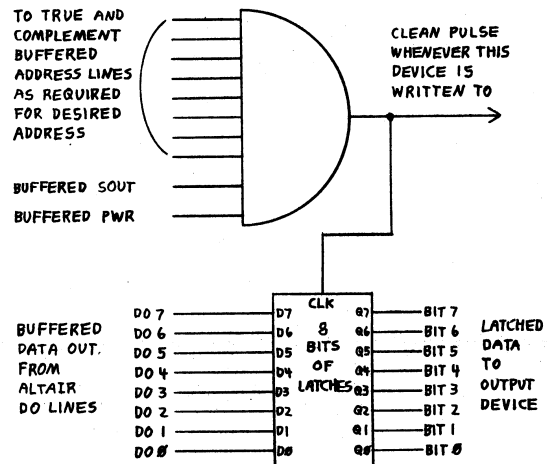

FIG. 2 SIMPLIFIED OUTPUT PORT SCHEMATIC
An output cycle is distinguished by the signal SOUT (pin 45) going high on the bus. As with the input cycle the device address is duplicated on the high and low halves of the address bus and is settled before SOUT goes high. Shortly after SOUT becomes active, the output data from the CPU settles on the 8 data out (DO) bus lines. Finally, after everything is settled and valid, PWR (pin 77) becomes active for almost exactly 500 NS signalling that the DO bus data should be latched into the output device's register. Thus the trigger pulse used to clock the data from the DO bus into the device register is the AND combination of proper address, SOUT, and PWR. Since valid address, valid data, and SOUT brackets the PWR pulse, the register used to receive the data may be either leading or trailing edge triggered. Even level triggered devices such as 7475's or a 74100 may be used. This "load register" pulse is also clean and may be used to inform the output device that new data has been loaded into its register. Note that the PWR signal appears on the Altair bus inverted (PWR) but is easily inverted again in the buffering process. As with input, once the bus buffering overhead has been taken care of, an 8 bit output port can be as simple as a 10 input AND equivalent and an 8 bit register (see figure 2).